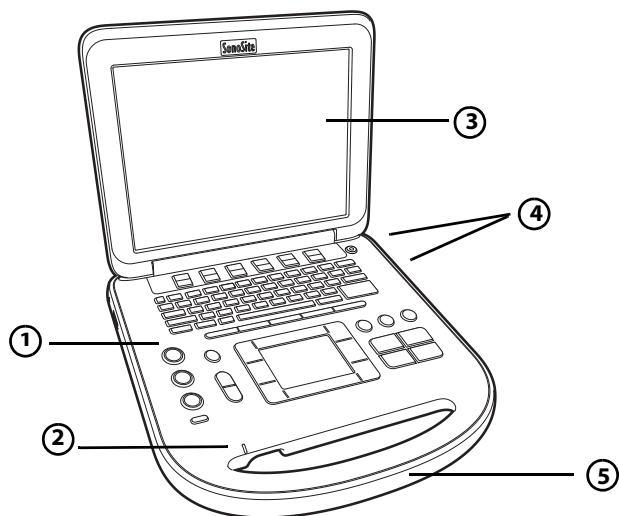

Figure 2-1 Front of the SonoSite Edge II Ultrasound System
The front of the system is shown in Figure 2-1.
- ❖ Insert the USB storage device into any USB port on the system or mini-dock. See Figure 2-1. The USB storage device is ready when the USB icon appears.